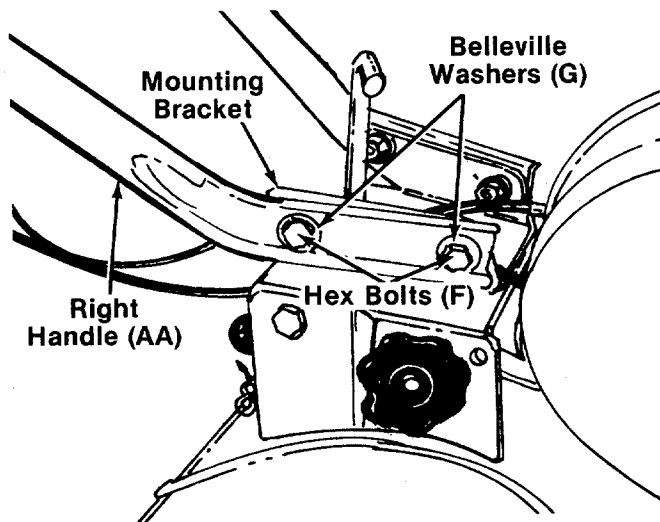

FIGURE 6
1. Place right handle (AA) in position on the right side of the tiller. Insert hex bolts (F) through belleville washers (G), handle and mounting bracket. See figure 6. Secure with hex nuts (I) and lock washers (H).
2. Repeat step 1 for left handle (AE) on the left side of the tiller.